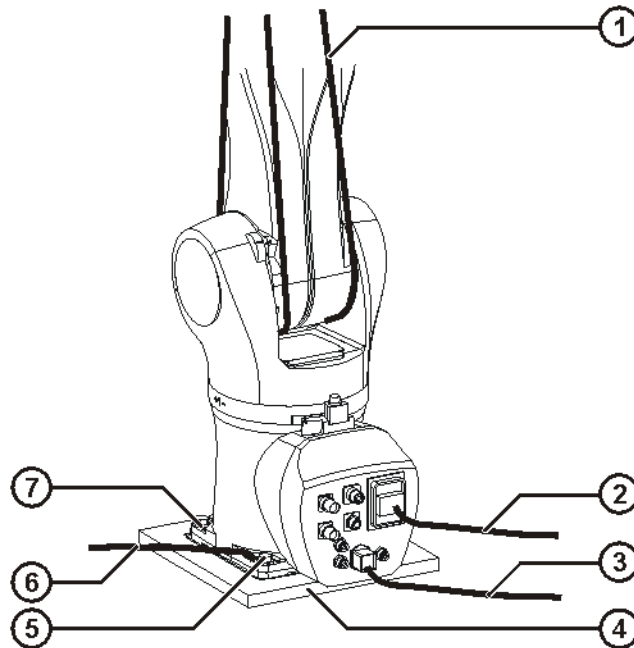

Fig. 11-2: Removing a floor-mounted robot
4. Secure the robot by activating the E-STOP device and then shut down the robot (>>> Fig. 11-2 ).